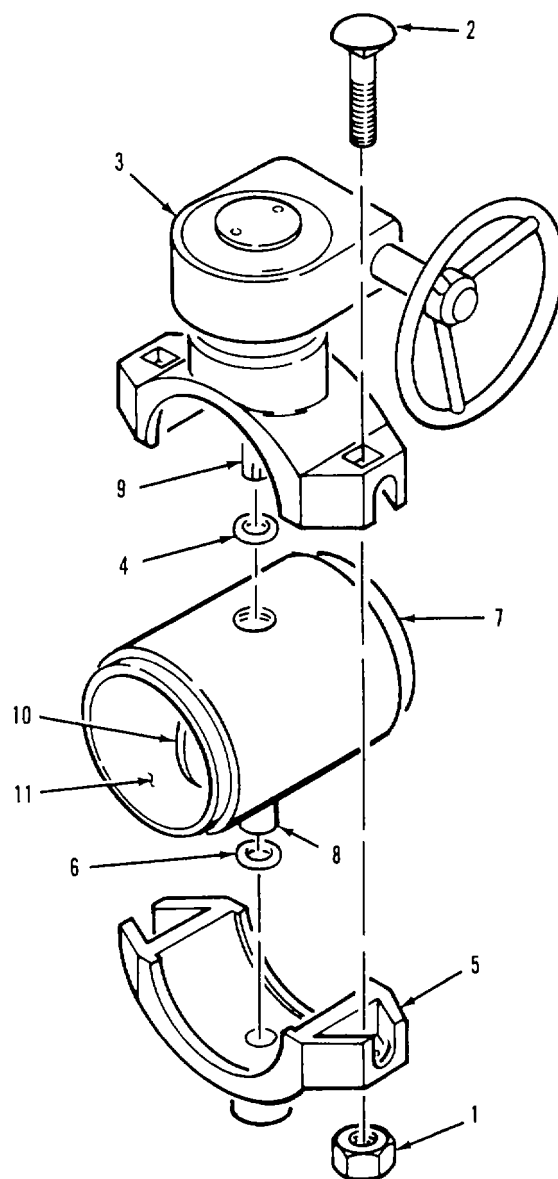

Figure 4-26. Butterfly Valve Assembly.
- e. Assembly. Refer to figure 4-26.
- (1) Apply lubricant to packing (6) Slide packing (6) onto shaft (8).
- (2) Apply lubricant to packing (4) Slide packing (4) onto drive shaft (9).
- (3) Position upper housing (3) onto barrel assembly (7) Rotate handle on upper housing as required to mate drive shaft (9) with butterfly (10).
- (4). Position lower housing (5) onto barrel assembly (7) Shaft (8) must align and mate with bearing in lower housing (5).
- (5) While holding upper housing (3) and lower housing (5) in place, install two bolts (2) and nuts (1). Tighten nuts evenly.
- (6) Turn handle on upper housing (3) and check for proper operation.
- (7) Install butterfly valve in water system (para 3-4).
- (8) Startup water system (para 2-13c) and check butterfly valve for leaks.